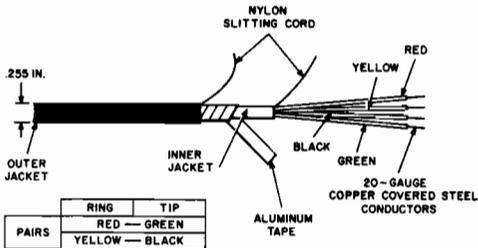

Fig. 1—B Service Wire
**2.02** B service wire, shown in Fig. 1, consists of one quad of 20-gauge (AWG) copper covered steel conductors, individually insulated with distinctively colored (red, green, yellow, and black) solid polyethylene. The insulation of the conductors is colored for purpose of identification.